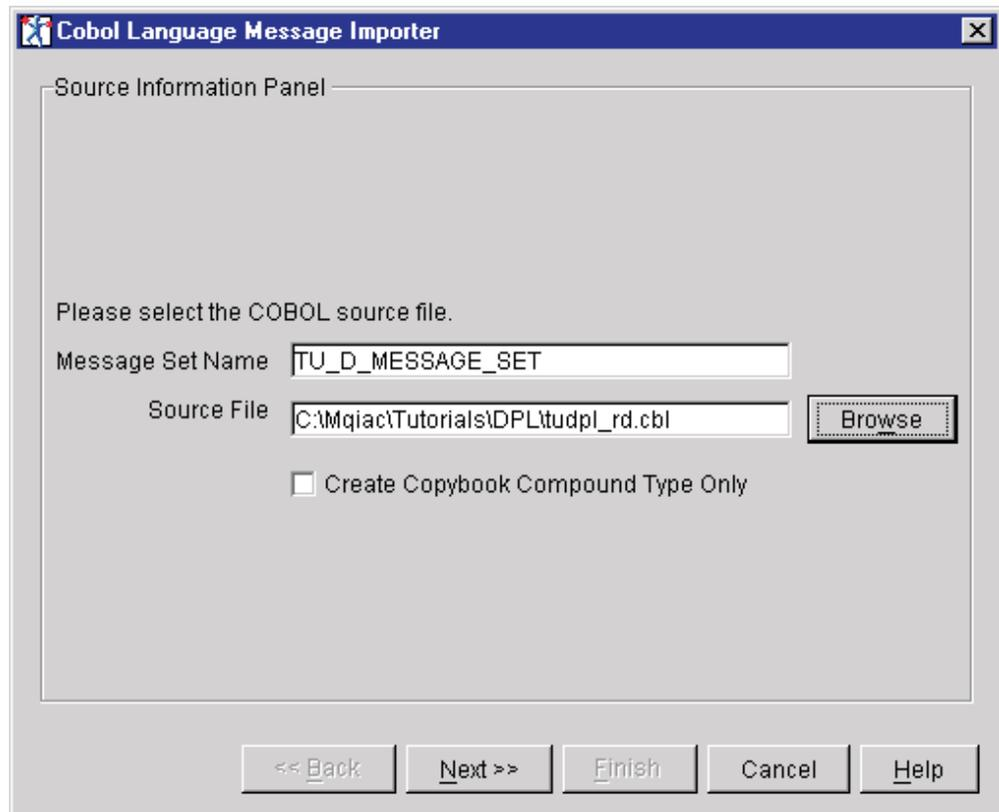

Figure 13. Import a message set (source information)
- c. Right click on the newly created TU\_D\_MESSAGE\_SET folder and select **Import to Message Set > COBOL**. On the COBOL Language Message Importer dialog (Source Information Panel), enter the directory path where the Source Files for the copybooks are located (see Figure 13 on page 28). Click **Next**.